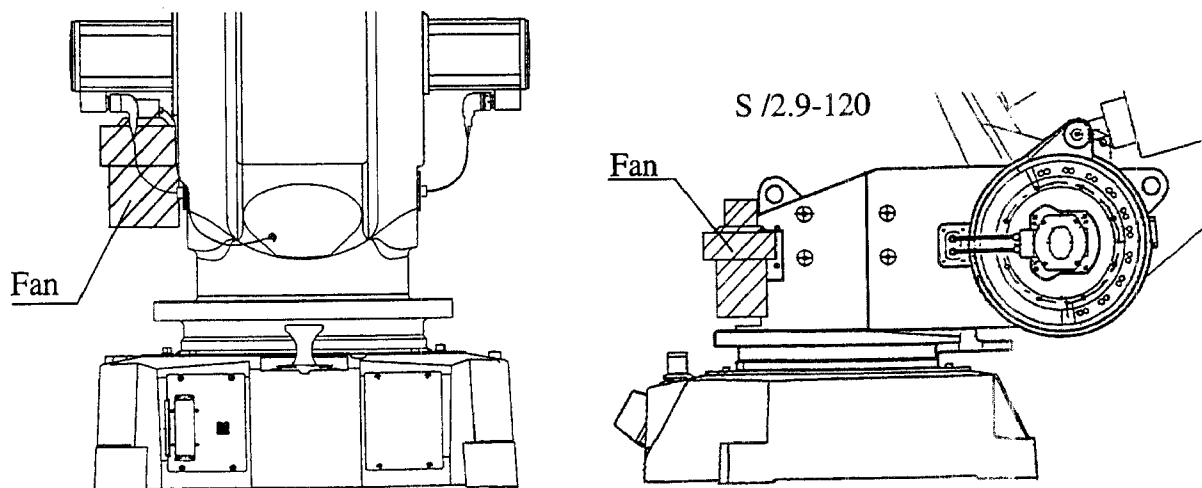

Figure 41 Location of the fan on the manipulator.
When using version 2.8-120 as in the technical specification "Handling capacity for IRB 6400/ 2.8-120 in presstending applications", a cooling device must be installed for axis 1. This option consists of a fan fitted to the frame on the side of the motor for axis 2, (see Figure 41) connected to the controller by means of the control cable for the motors. The fan (230 V AC) starts operating in the MOTORS ON mode. It exhausts air through a replaceable filter. Replacement filters (3) are supplied with the extra cooling device.